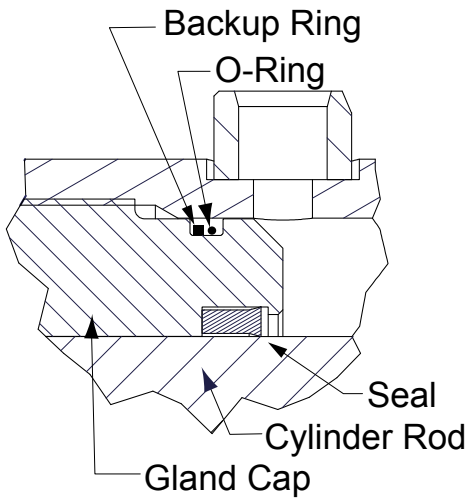

Figure 3-6, Gland Cap Seal
2. Install the seals and wipers in the gland cap. Note the direction of the seals. The cupped side or O-ring side of the seal should be facing the piston. (Figure 3-6)